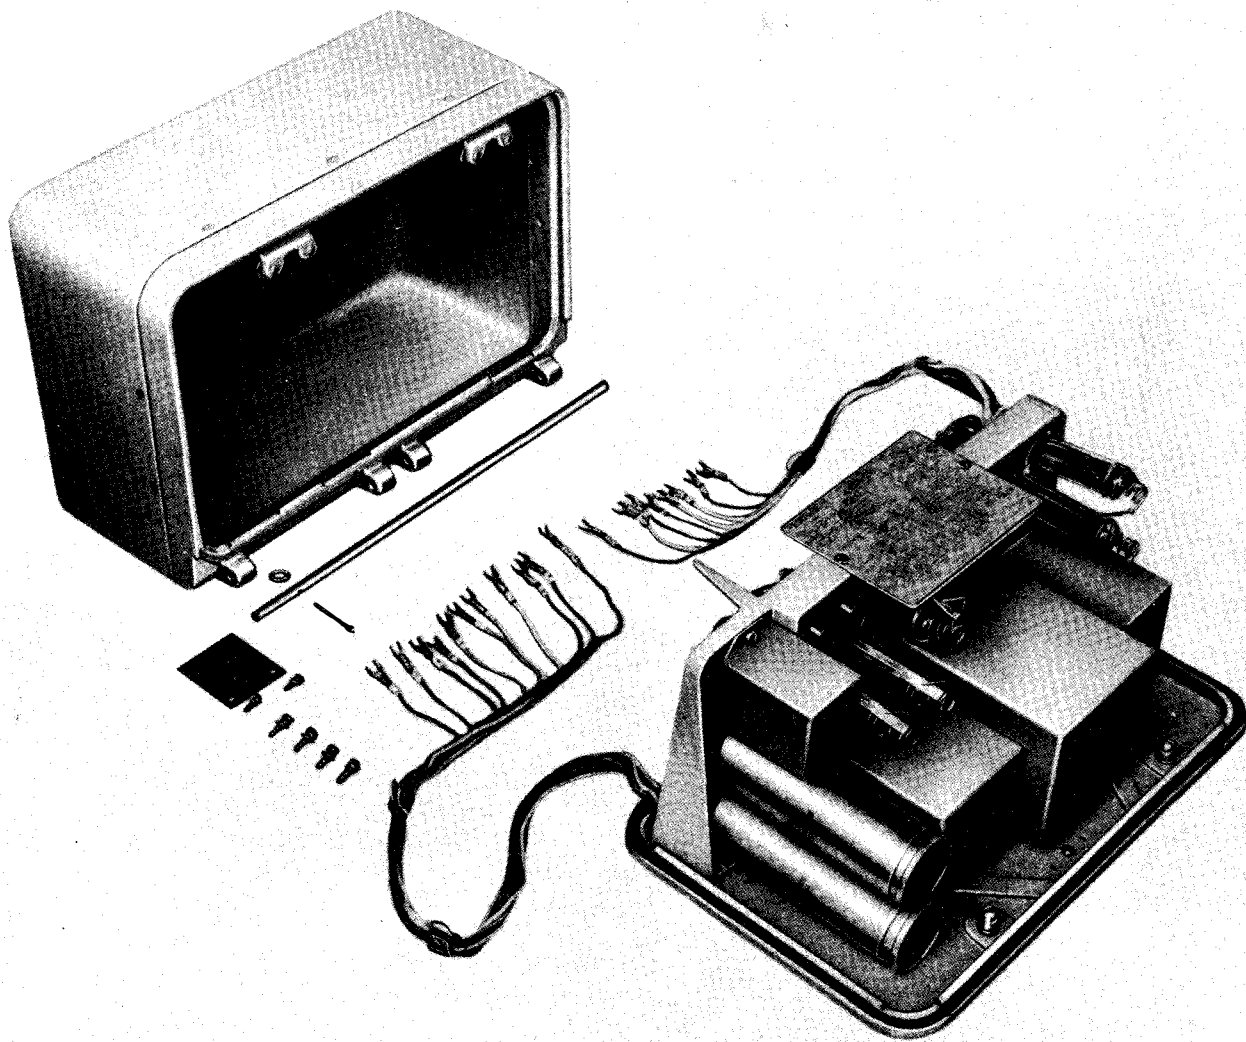

Figure 3-3. A.F. Amplifier AM-215B/U Removed from Case
5. Remove the unit from the cabinet (see figure 3-3).